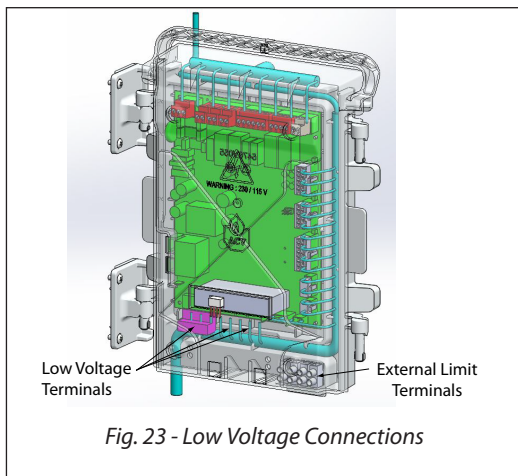

Fig. 23 - Low Voltage Connections
1. Connect the DHW aquastat or temperature sensor wires to low voltage terminals X4-1&2 located at the bottom of the ACVMax control module as shown in *Fig. 23 on page 36*.
3. Connect the external limit wires to the Manual Reset Limit or Auto Reset Limit low voltage terminals located on the lower right corner of the ACVMax control module housing as shown in *Fig. 23 on page 36*.
1. Connect the system temperature sensor wires to low voltage terminals X5-3&4 located at the bottom of the ACVMax control module as shown in *Fig. 23 on page 36*.